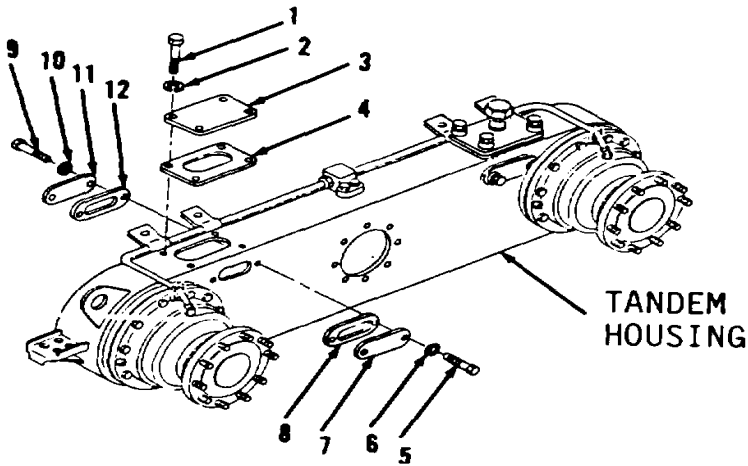
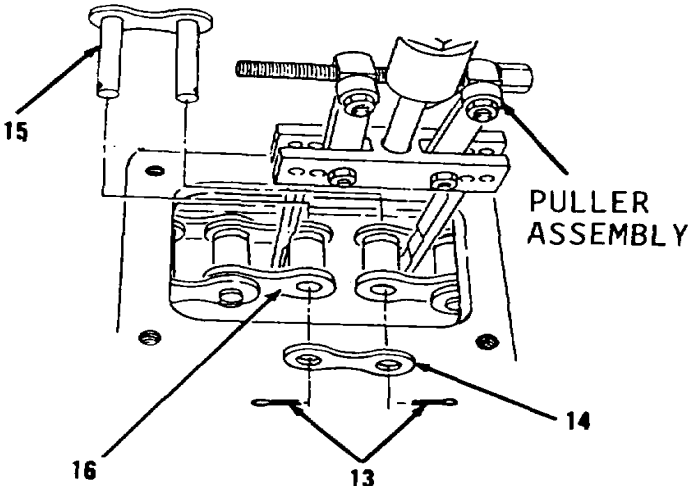

Figure 5-146.
Figure 5-147.
1. Remove four bolts (1), washers (2), cover (3) and gasket (4, Figure 5-146) from top of tandem housing on right axle, rear frame. Discard gasket (4). Remove all gasket material from mounting surfaces.
2. Remove two bolts (5), washers (6), cover (7) and gasket (8) from outer side of tandem housing. Discard gasket (8). Remove all gasket material from mounting surfaces.
3. Remove two bolts (9), washers (10), cover (11) and gasket (12) from inner side of tandem housing. Discard gasket (12). Remove all gasket material from mounting surfaces.
5. Remove and discard two cotter pins (13, Figure 5-147).
6. Using puller assembly and two legs, remove bar (14).
7. Using puller assembly and two legs, remove link (15).